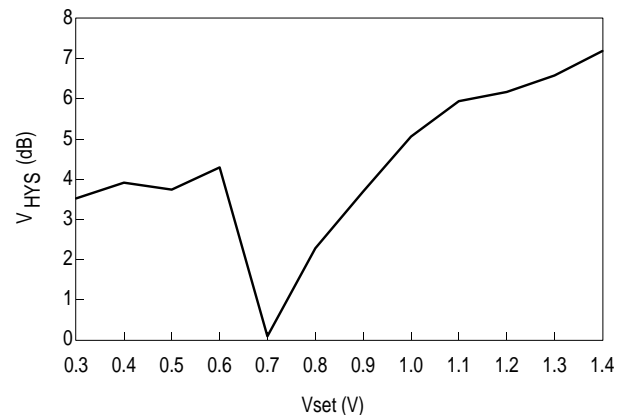

Figure 3. LOS Hysteresis ($T_A = 25^\circ C$)
2. This device has an anomaly in V_{HYS} when $0.65 < V_{SET} < 0.75V$. Operation in this region is not recommended. (See Figure 3)